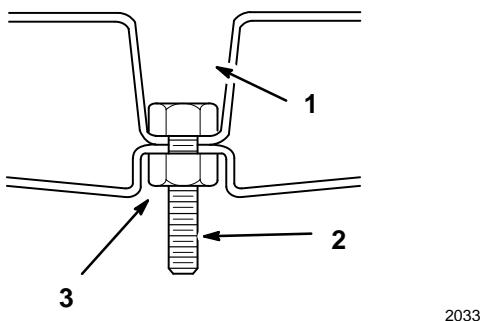

Figure 2
1. Place (4) 5/16"-18 x 1-1/4" bolts into the deep recessed holes in the left and right baffles. Secure the bolts with (4) 5/16" locknuts in the shallow recesses. Refer to Figures 2 and 3 for correct assembly and hole usage.